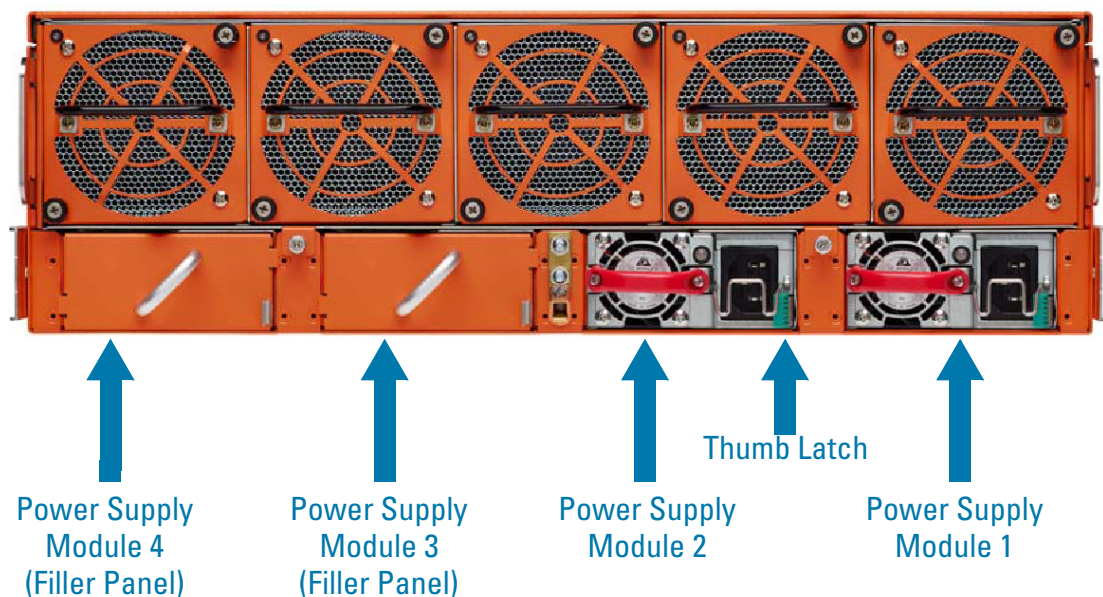

Figure 3-5: Power Supply Modules (AC Version Shown)
3. Carefully slide the first PSM into the matching receptacles at the lower rear of the node (Figure 3-5 on page 54). Push gently to seat the PSM firmly in the chassis until the thumb latch snaps into place.
NOTE: If using two PSMs, leave filler panels in as shown in Figure 3-5. The filler panels aid in air flow distribution. If a PSM fails, leave it in the chassis.